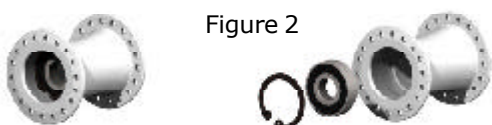

Figure 2
5. You then take a hammer or similar tool and hammer the end of the hub axle (2). You will then knock out the hub axle (2), a cone ring (6), a bushing (7) and two curved washers (8).
6. You will now be able to knock the bushing free (7) from the hub axle (2) and remove the cone ring (6). You can now remove the cone ring (use tracing pliers) and the bushing still located in the hub casing (9). See figure 2.